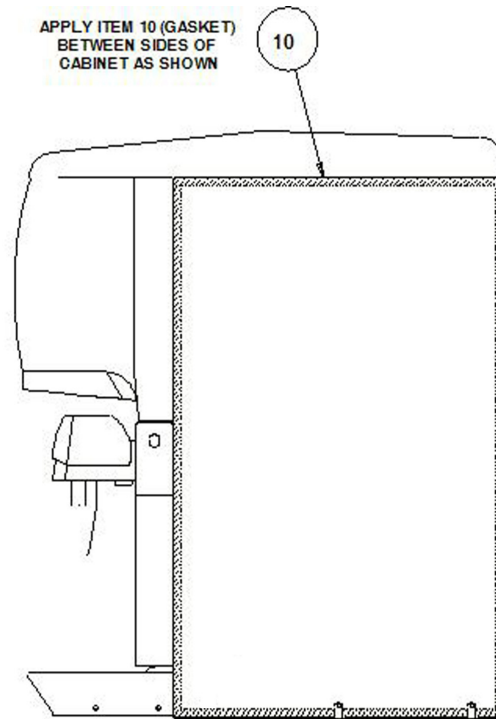

Figure 1. Gasket Installation
2. Apply the self-adhesive gasket to the side of one of the dispensers as shown in Figure 1. The ends of the gasket should fit tightly together.